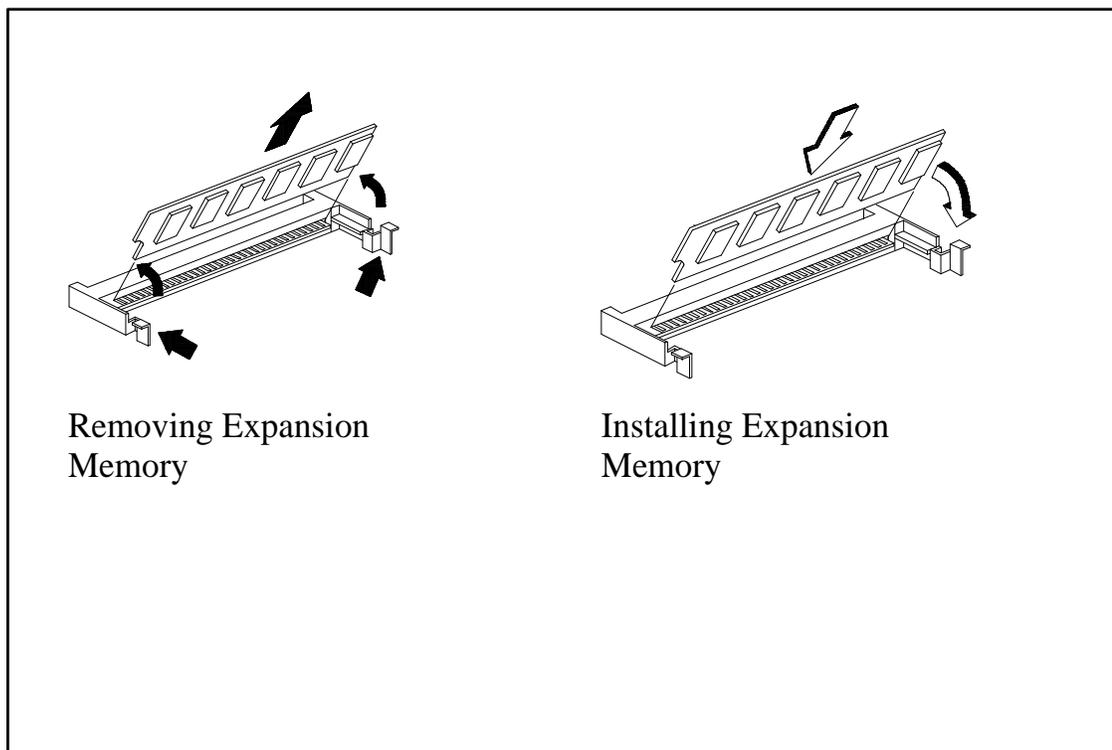

Figure 6-8 Memory Expansion Removal/Replacement
- memory module out (refer to Figure 6-8).